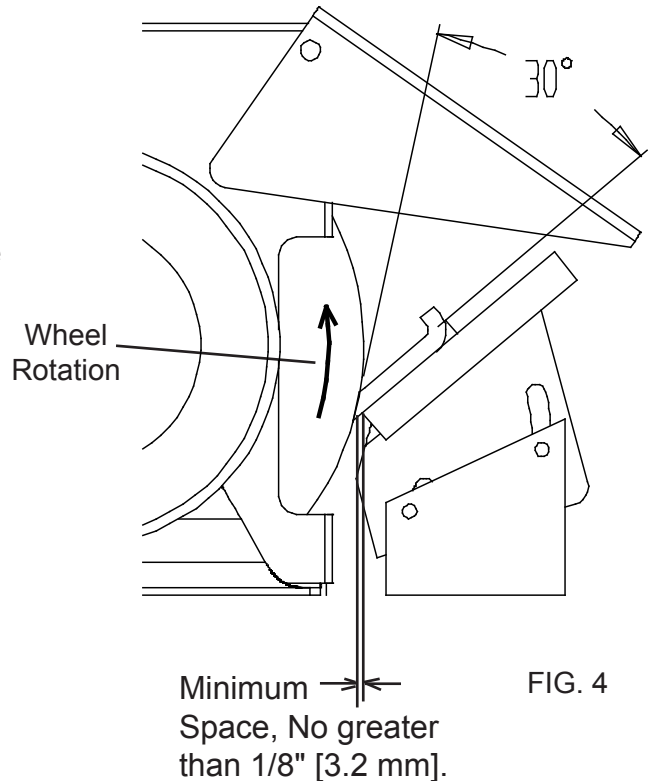

FIG. 4
**NOTE:** Because of the relationship of the grinding wheel to the blade guide during grinding, this grinder will give a slightly concave surface. See FIG. 4. This is normal and acceptable.